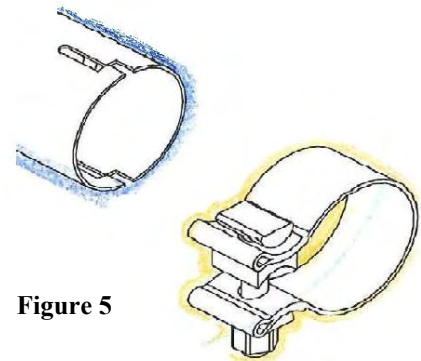

Figure 5
2. Check your exhaust system for proper clearance under the vehicle and also for tip alignment. Starting at front flanges and moving to rear of vehicle, tighten flange hardware bolts. Orient position of bolt (on supplied clamps) between (not over) pipe notches and tighten to 35 ft. lbs. torque. (See Fig.5)